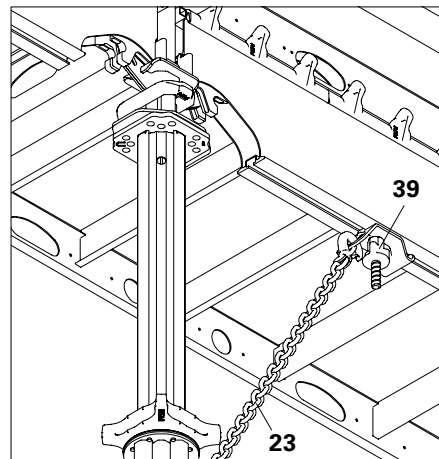

Fig. A7.03
- In the longitudinal direction, attach Anchor Chain (23) to the Tension Sleeve SAO (39). (Fig. A7.03)